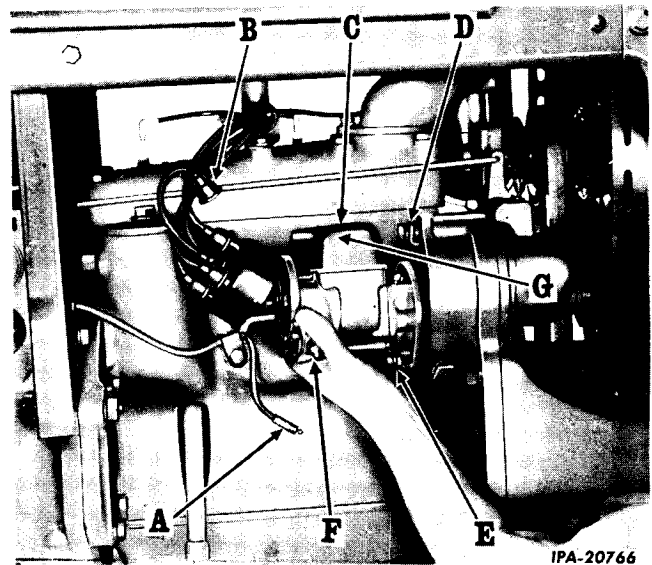

Fig. 11 - Magneto and Connections (60 Series).
1. 60 SERIES: Attach a jumper wire between the magneto terminal "F" and the coil cover mounting bolt "G," Fig. 11. This will ground the magneto and prevent accidental starting.
60 SERIES ONLY: Remove the jumper wire from the coil cover mounting bolt "G" to the magneto terminal "F" (Fig. 11).